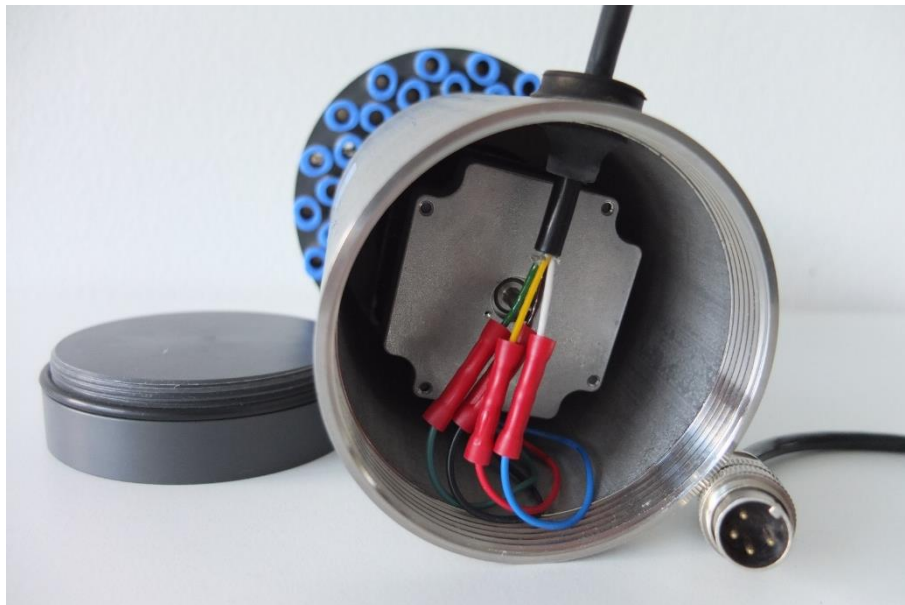

Figure 4 Distribution unit, view from below
9. Mount the cable grommet into the 16 mm bore of the motor housing and push the cable through the grommet. Connect the cable strands to the strands of the stepper motor with butt connectors (see Figure 4). Connect the round connector to the other end of the cable.